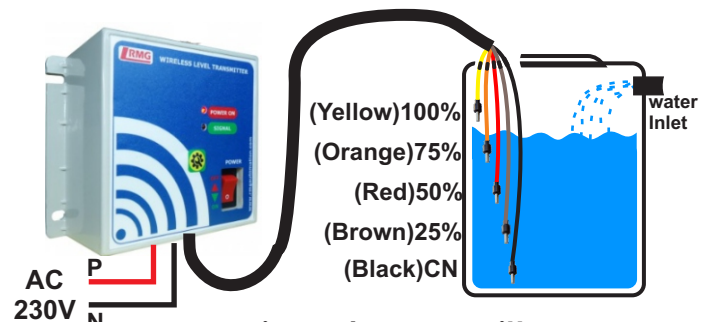

Figure4: Transmitter
Step 7: Now power off the controller and transmitter unit. **Contact type sensor connection:** Take the sensors and cut them according to the levels of the tank and join them with the sensors lines of transmitter as per color coding. (Refer figure 4). **Magnetic float sensor connection:** These sensors has 2 wires. Use any one wire in each sensor as common. Other wire left in each can be used for levels.